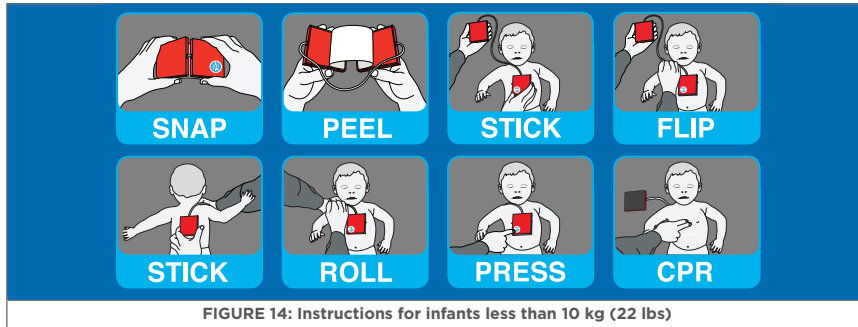

FIGURE 14: Instructions for infants less than 10 kg (22 lbs)
To activate the CellaAED®, perform the Snap Peel Stick™ actions (Figure 14, page 42).
- vi) STICK the pad featuring the blue Infant Mode button firmly onto the infant's exposed skin on the chest between the nipples (Figure 14, page 42). Press firmly so that the entire pad adheres to the infant's skin.
DANGER: Correct pad placement and good pad contact with the skin is critical (refer to Figure 14, page 42 for Infants weighing less than 10 kg (22 lbs)).
FOR ADULT, APPLY PADS ACROSS CHEST. FOR INFANT, APPLY PADS TO CHEST AND BACK.	Apply the electrode pads as instructed. Be prepared beforehand to place the electrode pads correctly. Take note of the difference between patients weighing greater than 10 kg (22 lbs) (both pads applied to the chest) and infants weighing less than 10 kg (22lbs) (one pad applied to the chest and one applied to the back) (refer to Figure 9A (page 37) for patients weighing greater than 10 kg (22lbs) and Figure 14 (page 42) for infants weighing less than 10 kg (22lbs)).